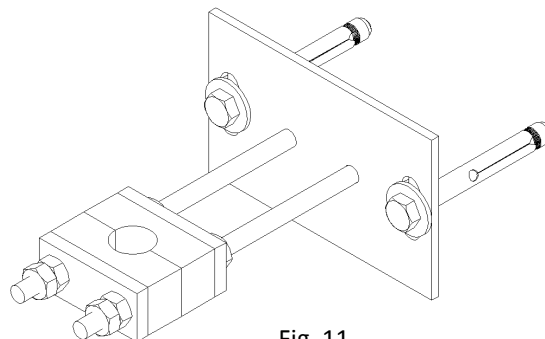

Fig. 11
- A stem support-guide (Fig. 11) is recommended every 1.5 m.